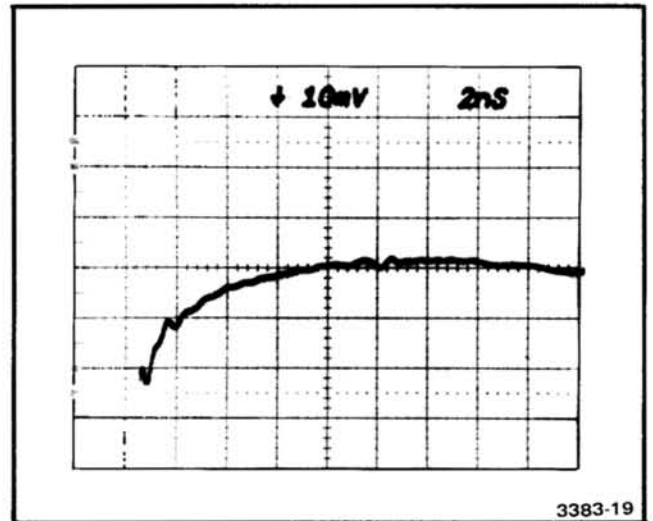

Fig. 4-9. Typical response curve as displayed on the sampling oscilloscope.
l. Adjust—C940 for minimum aberrations with risetime ≤ 1 ns. A slight amount of front-corner overshoot is desirable. Refer to Fig. 4-9.